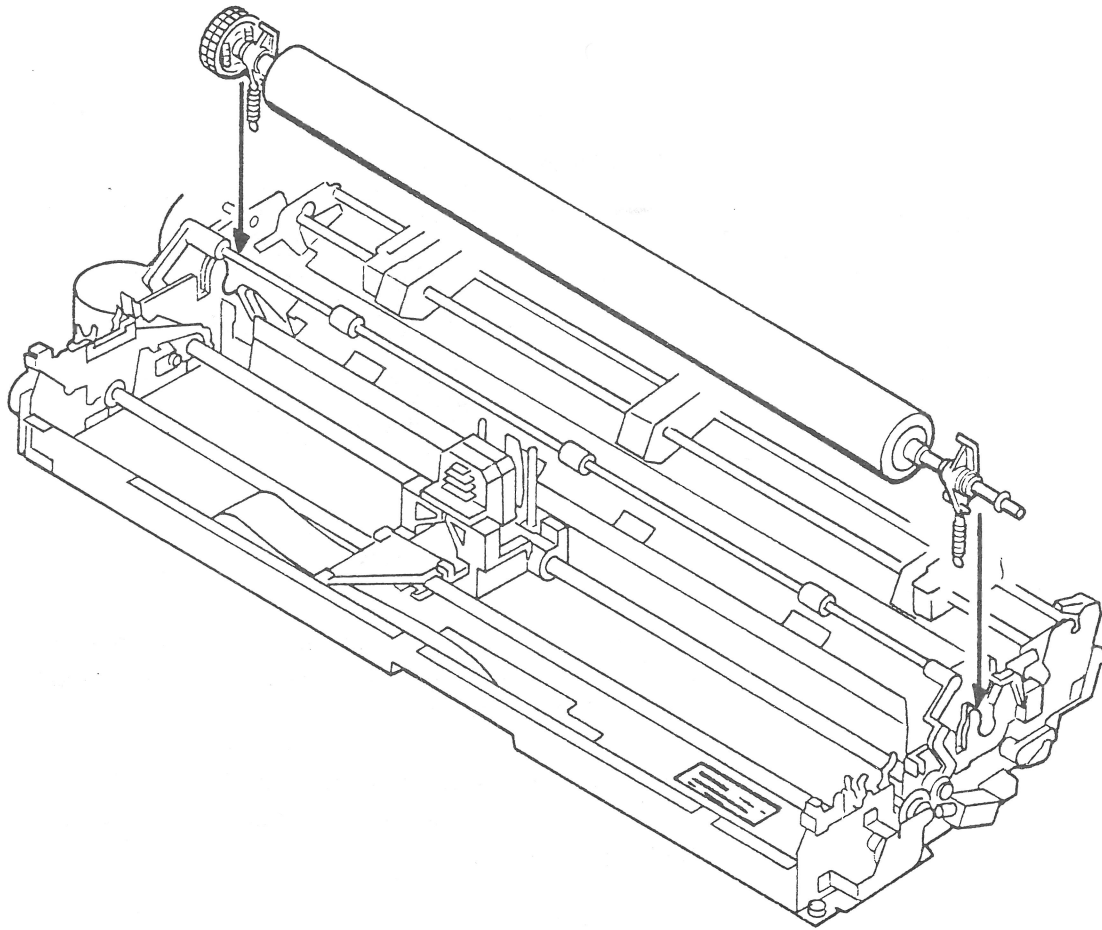

FIGURE 13
1. Place the platen assembly in the mechanical assembly (Figure 13).